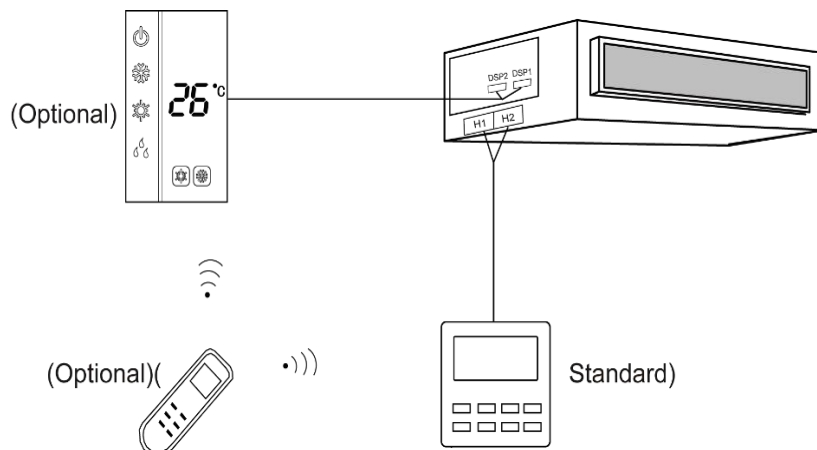

Fig31
7) Fig31 shows the installation of the remote controller.
- 8) The wired controller and the receiving light board can be installed at the same time. When operating through a remote controller, both the wired controller and the receiving light board can receive the signals, as shown in Fig31.